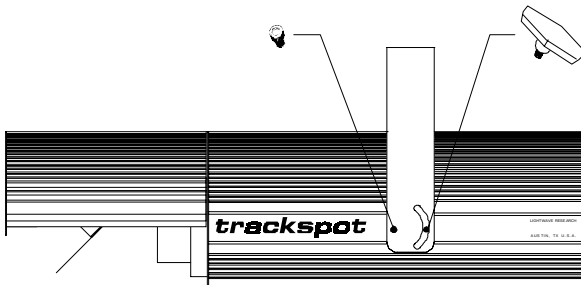

Figure 1-2. Inserting the yoke screws and T-handles
4. Place the yoke ends over the fixture and align the yoke's screw holes with the screw holes on the fixture (see Figure 1-2).